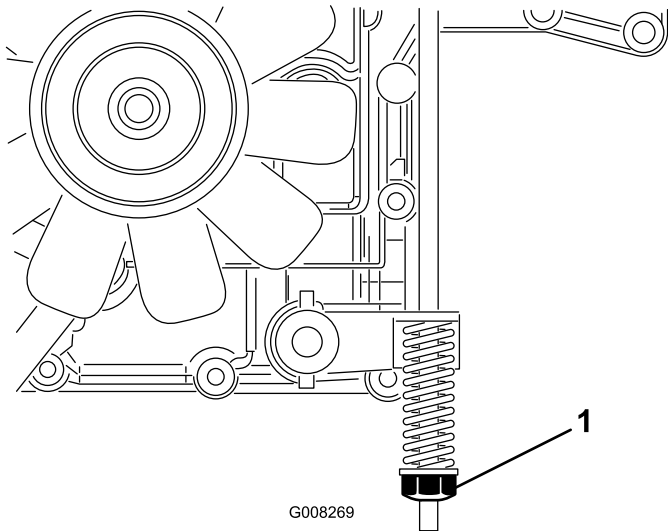

Figure 33
The brake is located on the right side of the rear axle, inside the rear tire (Figure 33).
3. Turn the brake adjusting nut clockwise until you cannot push the machine (Figure 33).